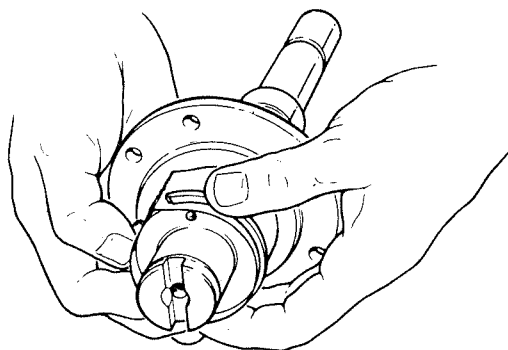

Fig. 14 Fitting piston rings
5. If you do not have a loading tool, lay a thin metal strip along the shaft above the grooves. Expand each ring just enough to allow it to be placed in its approximate position over the strip, then gently remove the strip, leaving the rings located in their respective grooves. (see Fig. 14).